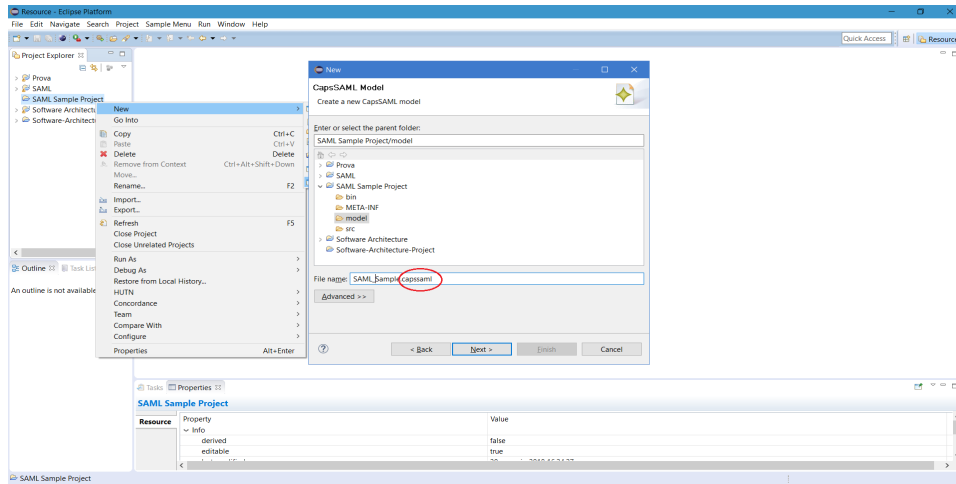

Figure 2.5: Naming the file
- Then, find **CAPSMModel** and then **CAPSSaml**. Give a name to your file paying attention to the last part of the name: it must end with **.capssaml** (concerning the folder, select **model** as well) (figure 2.5);